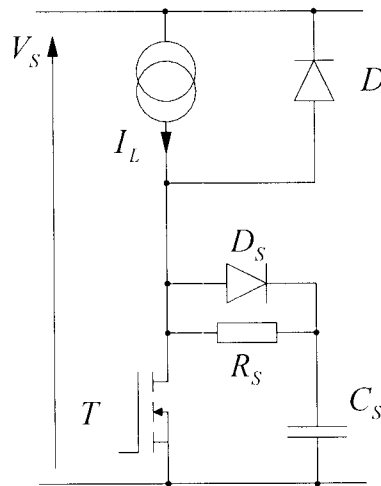

Figure 2
- (d) Figure 2 shows snubber circuit applied to a transistor switching an inductive load. The load has been approximated by a constant current. Other details of the circuit are: supply voltage,  $V_S = 500$  V; snubber capacitor  $C_S = 22$  nF; transistor current fall time,  $t_{fi} = 500$  ns and transistor voltage rise time,  $t_{rv} = 100$  ns. [4]